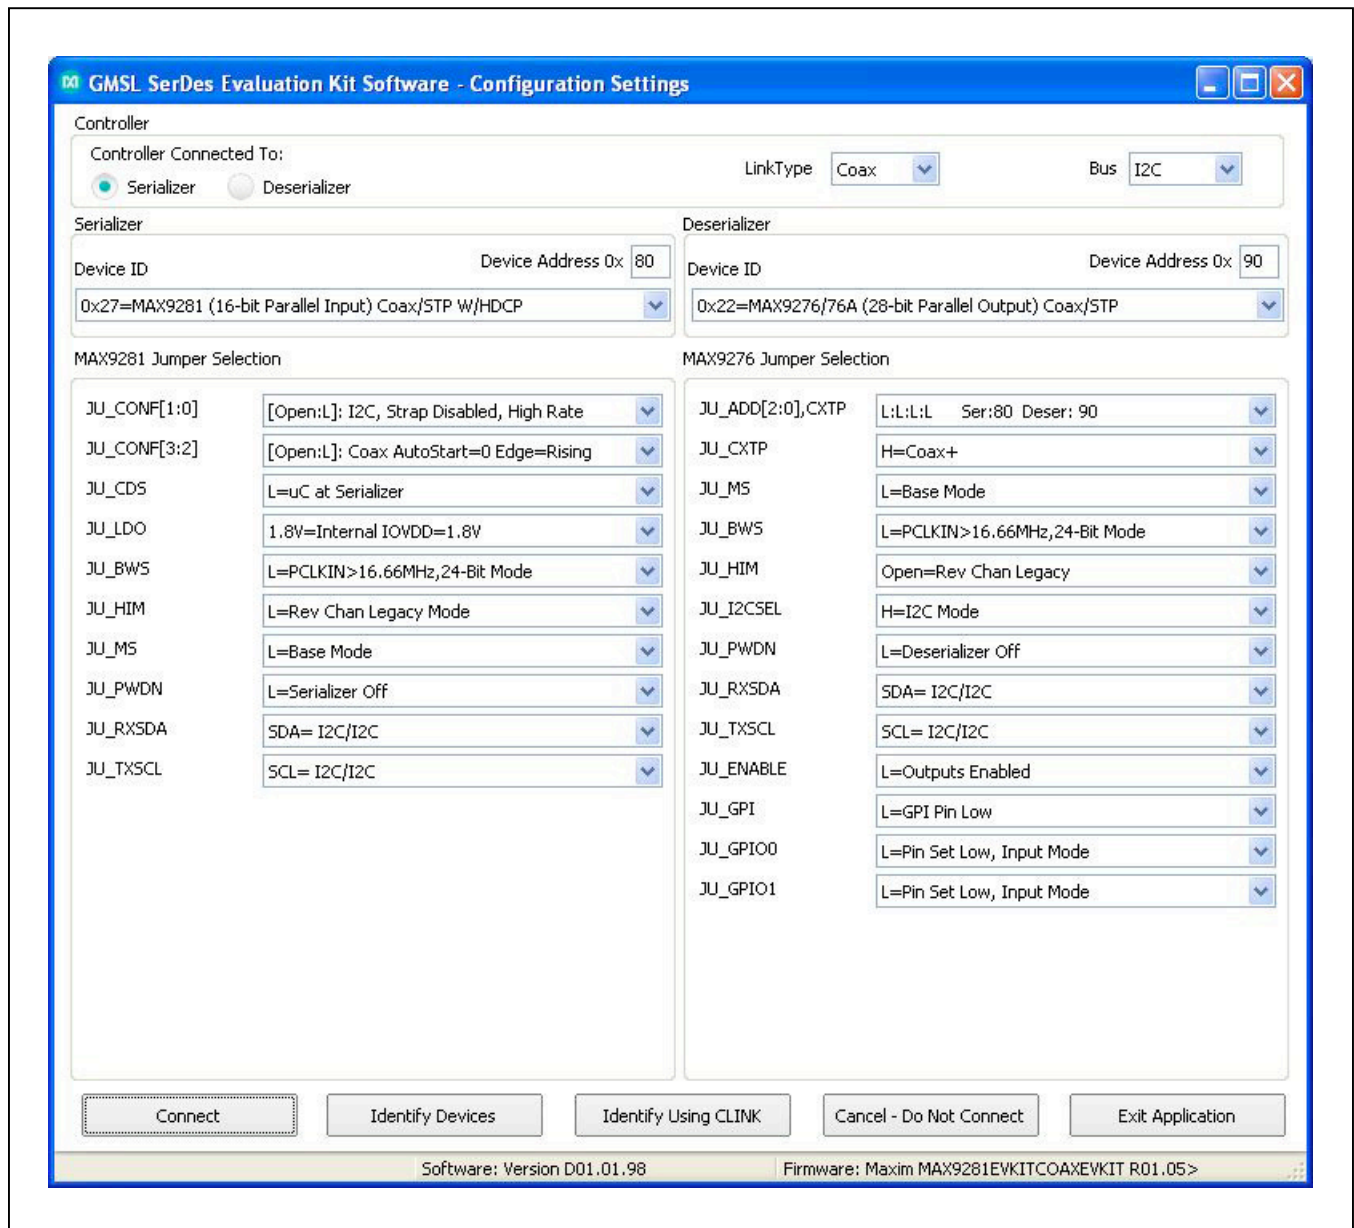

Figure 1. MAXSerDesEV-D Evaluation Kit Software: Configuration Settings Window
- 16) Start the EV kit software by selecting **Start | Programs | Maxim Integrated | MAXSerDesEV-D | MAXSerDesEV-D**. The **Configuration Settings** window will appear (Figure 1).